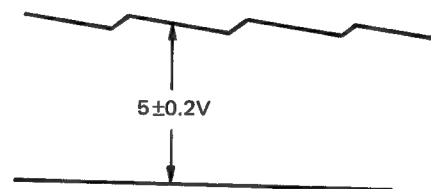

Figure 8-3.
2. Monitoring TP5 with an oscilloscope (internal trigger), adjust R738 (DRUM ROCK) so that the requirement given in Figure 8-3 be met.